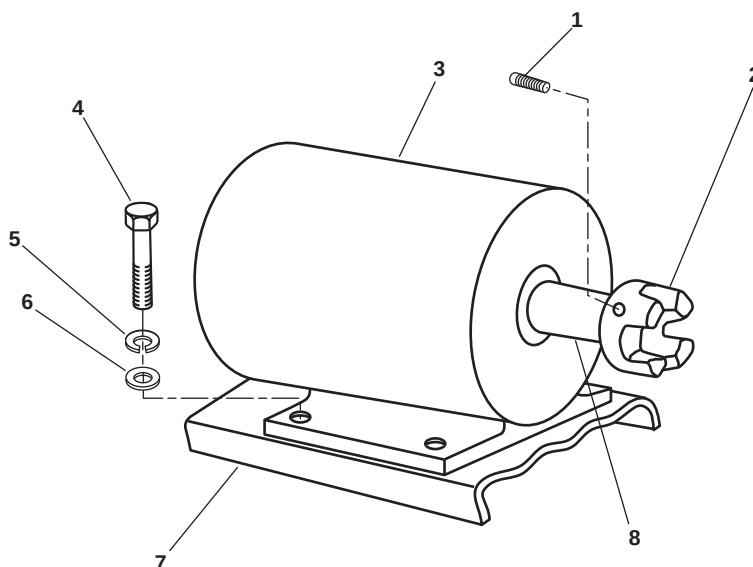

Figure 3. Electric Motor
6. Loosen the motor coupling flange setscrew (figure 3, item 1).
7. Slide the motor coupling flange (figure 3, item 2) towards the motor (figure 3, item 3).
8. Remove the four bolts (figure 3, item 4), four lockwashers (figure 3, item 5), and four flat washers (figure 3, item 6) that secure the motor (figure 3, item 3). Discard the lockwashers (figure 3, item 5).
9. Remove the motor (figure 3, item 3) from the foundation (figure 3, item 7).
10. Remove the motor coupling flange (figure 3, item 2) from the motor shaft (figure 3, item 8).
1. Install the motor coupling flange (figure 3, item 2) on the motor shaft (figure 3, item 8) with the flat end towards the motor (figure 3, item 3).
2. Install the motor (figure 3, item 3) on the foundation and secure it with the four bolts (figure 3, item 4), four new lockwashers (figure 3, item 5), and four flat washers (figure 3, item 6). Do not tighten the nuts and bolts at this time.
- b. Tighten the motor coupling flange setscrew (figure 3, item 1).
- c. Tighten the four bolts (figure 3, item 4), four new lockwashers (figure 3, item 5), and four flat washers (figure 3, item 6).